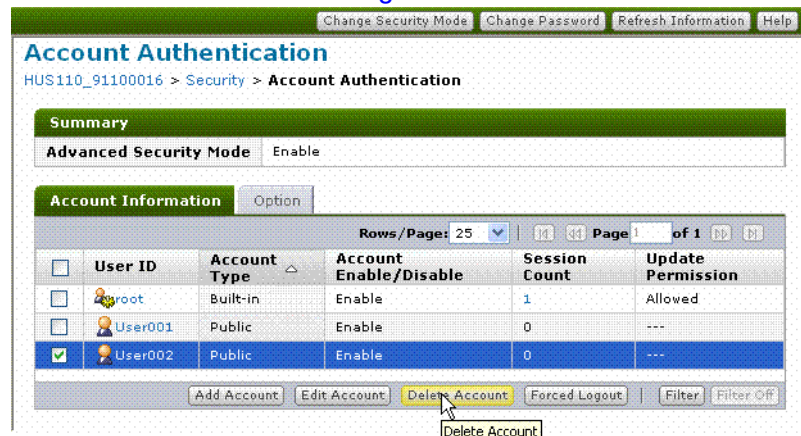

Figure 5-10: Account Authentication - Account Information tab, deleting account
5. Select the account from the Account list to be deleted, then click **Delete Account** as shown in Figure 5-10.